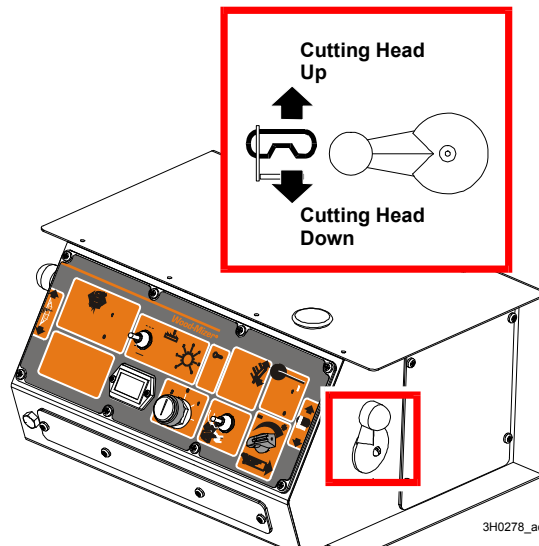

FIG. 2-14
**See Figure 2-14.** The up/down switch is located on the far right side of the control panel. Push the switch up to raise the cutting head; push the switch down to lower the cutting head. Hold the switch in position until the cutting head reaches the desired height, then release.